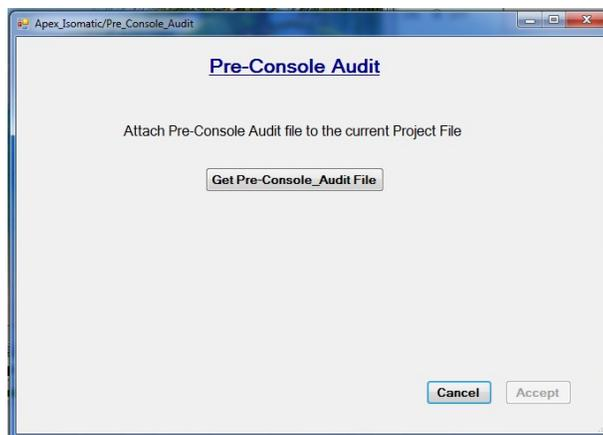

Figure 24 - Pre-Console Audit Menu Screen
- a) Click the **Get Pre-Console_Audit File** button depicted in the Pre-Console Audit menu, Figure 24, below, to attach an Audit data file to the current test file. The Audit file will be attached to the test record when the **Accept** button on this screen is clicked and the program will return the user to the Main Menu.